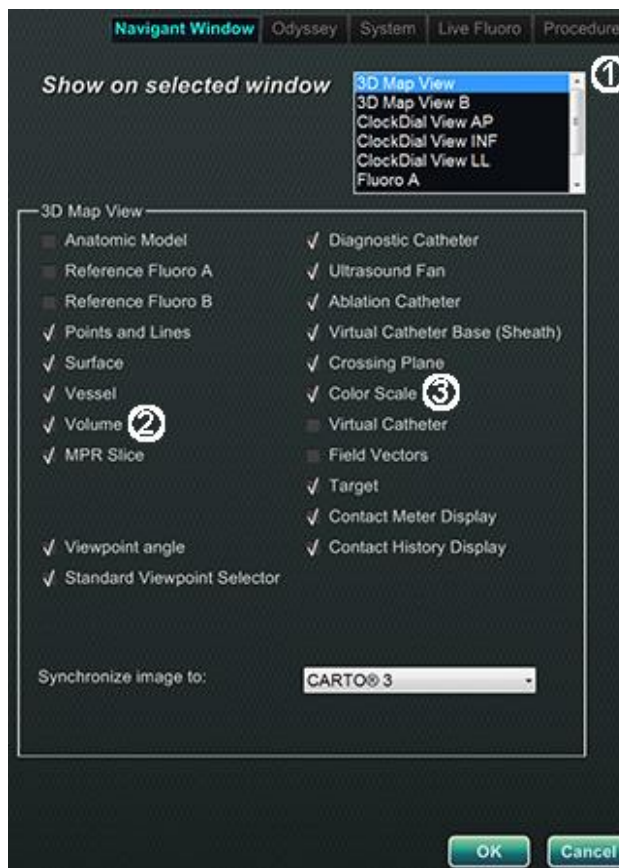

Figure 187. *Navigant* Window settings for Ablation History:
2. From the System Option menu, click **Settings**. The screen for the *Navigant* Window tab appears (**Figure 187**).